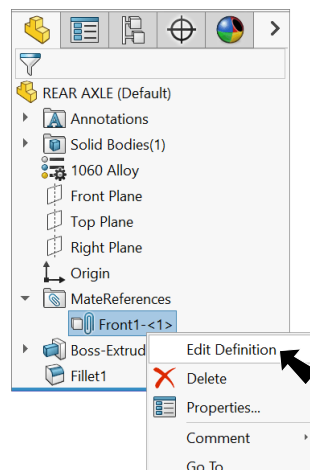

Fig. 12
Step 1. Expand MateReferences  in the Feature Manager, right click Front1  and click Edit Definition in the context toolbar, Fig. 12.